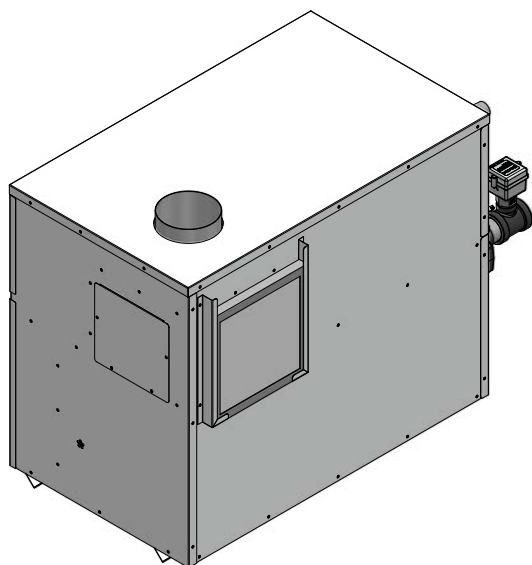

Figure 1-7 Metal Panel Covering Side Combustion Air Inlet
1. Remove the metal panel from the unit's side wall (see FIG. 1-7).